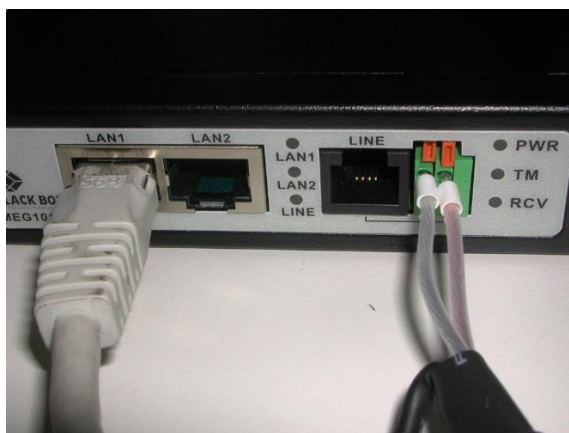

Figure 14 DSL connection.
4. Data cable (LAN): equipped with a standard RJ45 plug, for connection to a remote computer, hub or switch, standard lengths 5 or 10 m. (see Figure 14)
5. Optional instead of item 4: Data line (DSL): equipped with a 2-pin cable for the connection of a DSL modem (see Figure 14)